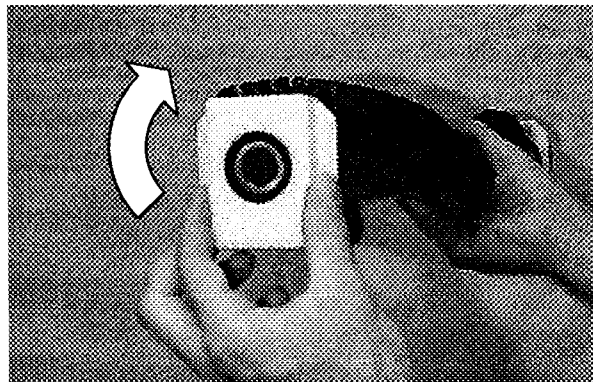

FIG. 13.
9. Rotate both bearing blocks 180° and reinstall brush. The bearings are positioned off-center in the blocks allowing for the brush to be lowered 3/16" (5mm). (Figure 13)